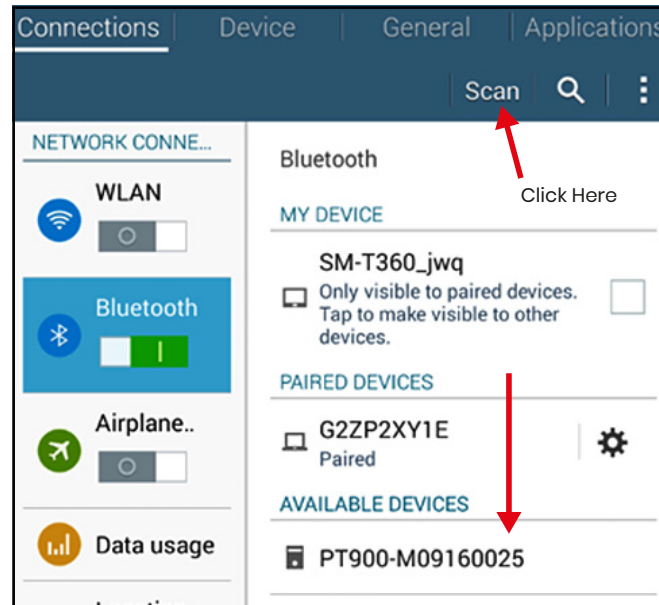

Figure 66: Available Devices List
8. In Android, APP will search for all available transmitters via Bluetooth. After the scan has been completed, any new transmitters which were found are listed in the AVAILABLE DEVICES section of the tablet screen (see red arrow in Figure 66 below). Click on your transmitter to pair it with the tablet via Bluetooth.